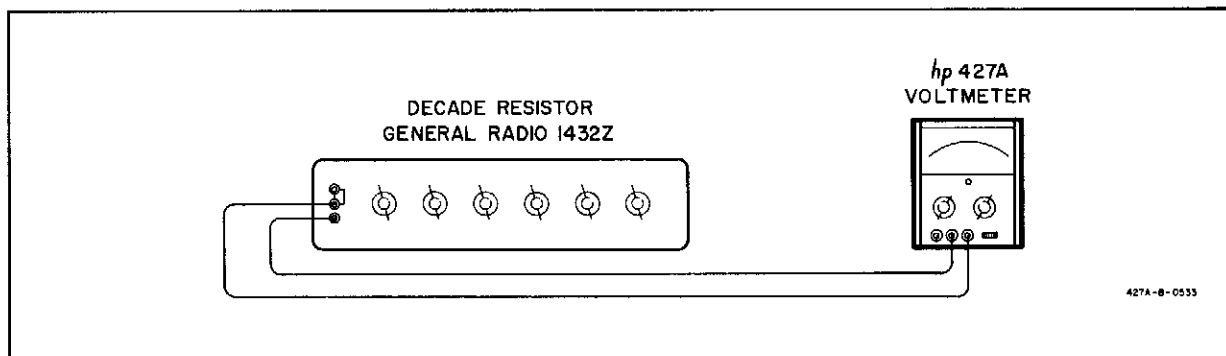

Figure 5-2. Resistance Accuracy Check
5-15. To check the resistance accuracy, precision resistances are needed. Figure 5-2 shows the resistance accuracy check using a General Radio Model 1432Z Decade Resistor. The resistance used should be accurate to within  $\pm 0.5\%$  and should have a range of 10 ohms to 10 M ohms.
- Connect the decade resistor and the Model 427A as shown in Figure 5-2, and set the decade for 10  $\Omega$ .